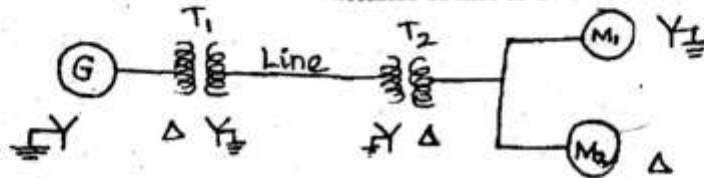

Figure. 11(a)
11. (a) A 90 MVA 11 KV 3 phase generator has a reactance of 25%. The generator supplies two motors through transformer and transmission line as shown in figure. 11(a). The transformer T_1 is a 3 — phase transformer, 100 MVA, 10/132 KV, 6% reactance. The transformer T_2 is composed of 3 single phase units each rated, 300 MVA, 66/10 KV, with 5% reactance. The connection of T_1 & T_2 are shown. The motors are rated at 50 MVA and 400 MVA both 10 KV and 20 % reactance. Taking the generator rating as base, draw reactance diagram and indicate the reactance in per unit. The reactance of line is 100 ohms. (16)
(b) (i) Determine Y_{bus} for the 3 — bus system shown in figure. 11(b). The line series impedance as follows. (10)